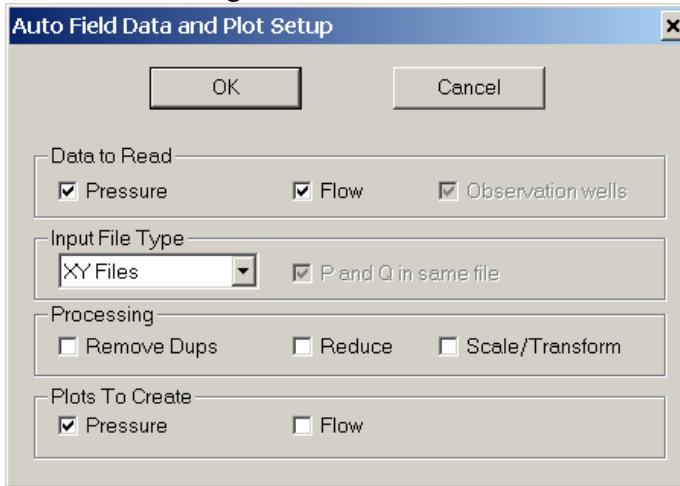

Figure 11.2 Automated Field Data and Plot Setup Dialog
(1) Select the **Auto Setup→Field Data Plots**.
(2) A dialog will appear as shown in Figure 11.2: